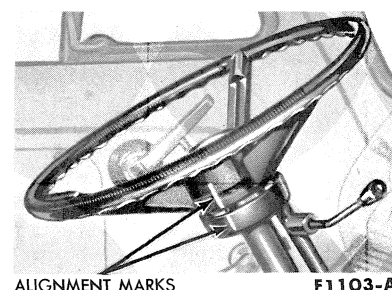

Fig. 1—Straight Ahead Position Marks—Econoline
1. Drive the vehicle in a straight line far enough to establish the straight-ahead position of the front wheels, and then place corresponding chalk marks on the steering column and steering wheel hub (Fig. 1).